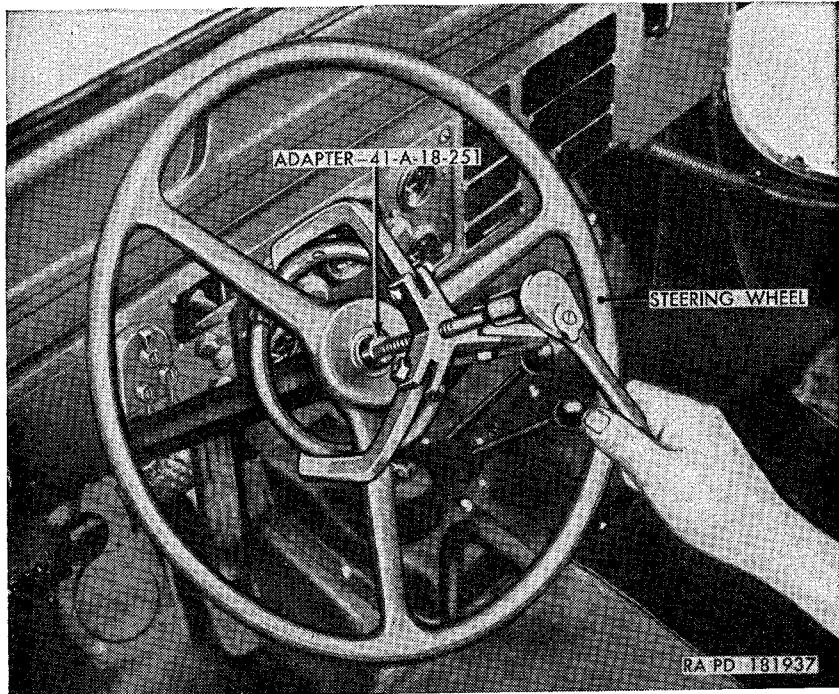

Figure 154. Removing steering wheel from steering gear shaft, using puller and adapter—41-A-18-251.
- (1) Pry the horn button cap from the steering wheel nut.
- (2) Pull the horn button, with horn switch push rod, out of the steering gear shaft. Unscrew and remove the steering wheel nut from the shaft.
- (3) Using puller and adapter 41-A-18-251 (fig. 154), pull the steering wheel from the steering gear shaft.
- (1) Jack up the vehicle until the front tires are clear of the ground. Turn the steering wheel (fig. 154) to the right or left to position the wheels in a straightahead position. Mark the steering wheel at the top and place a mark on the windshield in line with the mark on the wheel.
- (2) Disconnect the drag link assembly from the Pitman arm (par. 227a(2)).